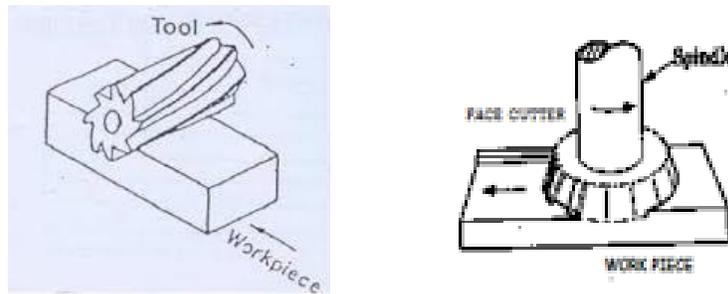

Figure Mill-10: different milling processes
12. Automatically and traversal, As in figure Mill-10, feed the workpiece toward the cutting tool.